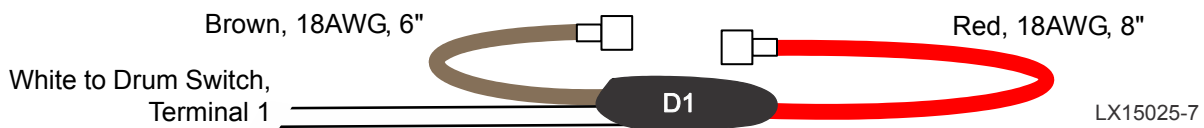

FIGURE 5
4. Disconnect the brown wire coming from the low-limit switch S4 (from outside the control box) at the red jumper wire at solenoid SOL5, terminal #1 and reconnect it to the brown input wire of the diode D1. (See FIG. 5 and 6.)
5. Disconnect the brown wire coming from the up-limit switch S6 (from outside the control box) at the jumper wire at solenoid SOL4, terminal #1 and reconnect it to the blue pigtail coming off of drum switch 2 terminal #5. (See FIG. 5 and 6.)